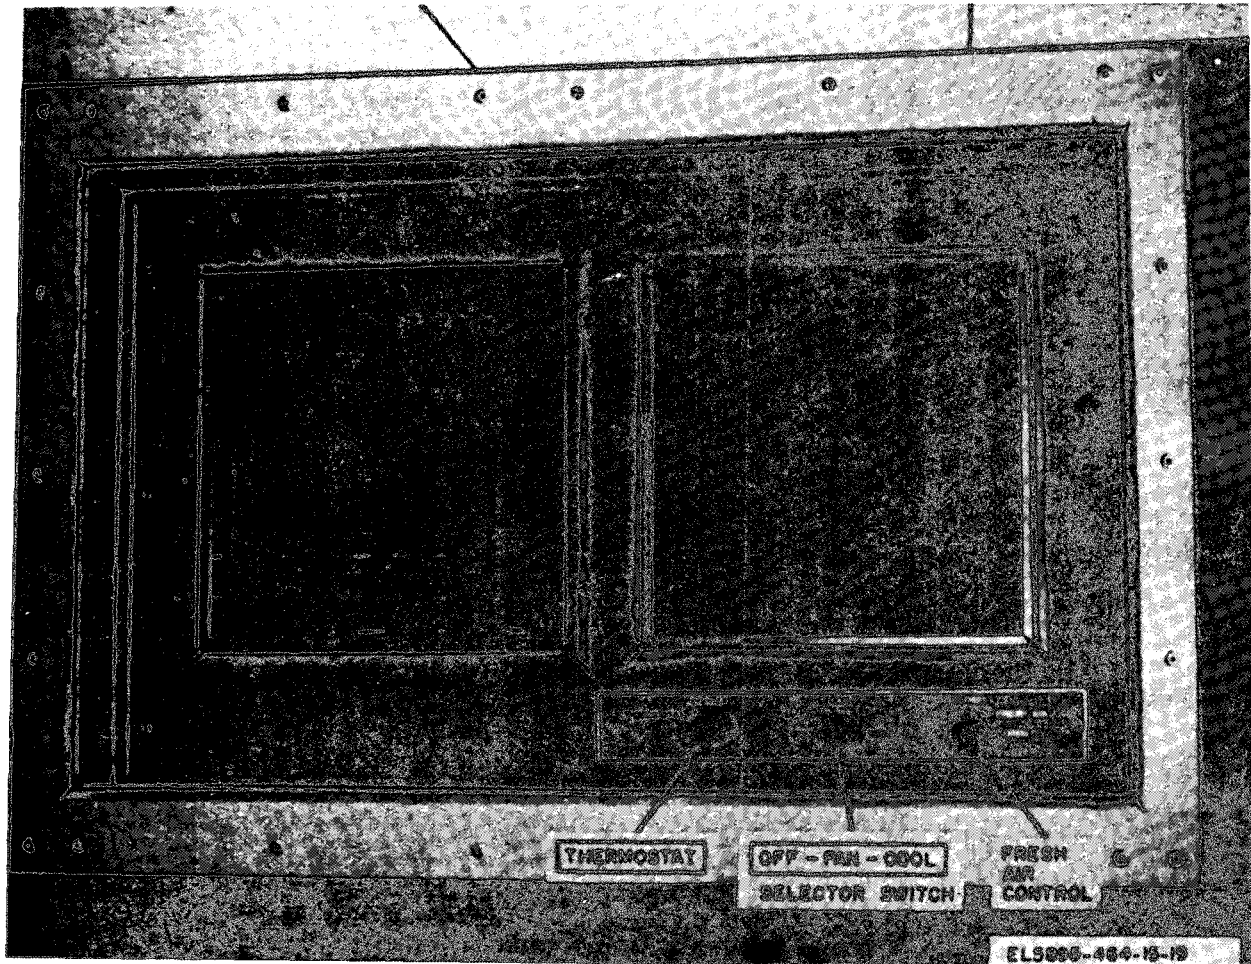

Figure 3-1. Air Conditioner Control Panel
h. Air Conditioner (fig. 3-1).
(2) Blowers. Operate the BLOWER switches to OFF. Secure the vents.
(3) Air conditioner (fig. 3-1).